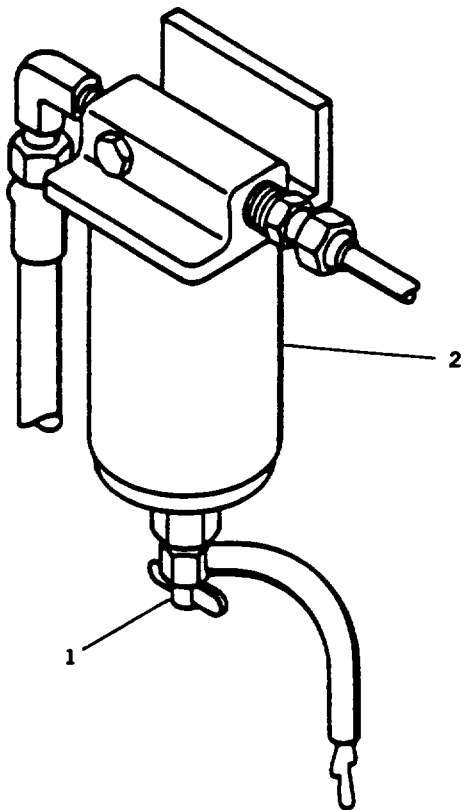

FIGURE 3-2. Draining Fuel Filter/Water Separator
3-3.6 Fuel Filter/Water Separator (FIGURE 3-2).
- c. Inspect fuel filter/water separator assembly (Figure 3-2) for proper mounting, cracks, dents, leaks, loose fuel lines and other damage.
- d. Open fuel drain cock (1, FIGURE 3-2) on fuel filter/water separator housing (2) and drain contaminants into a suitable container.
- e. Close drain cock (1) .